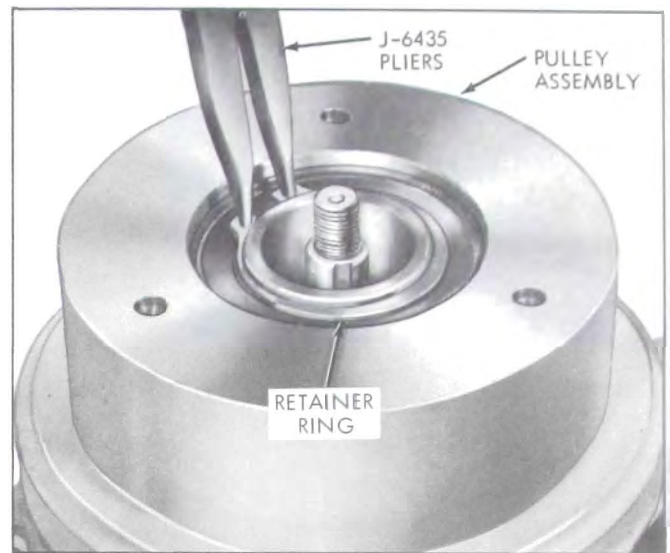

Figure 11-43—Removing Pulley Retainer Ring
2. Remove pulley assembly retainer ring using J-6435, No. 26 Truarc pliers. See Figure 11-43.